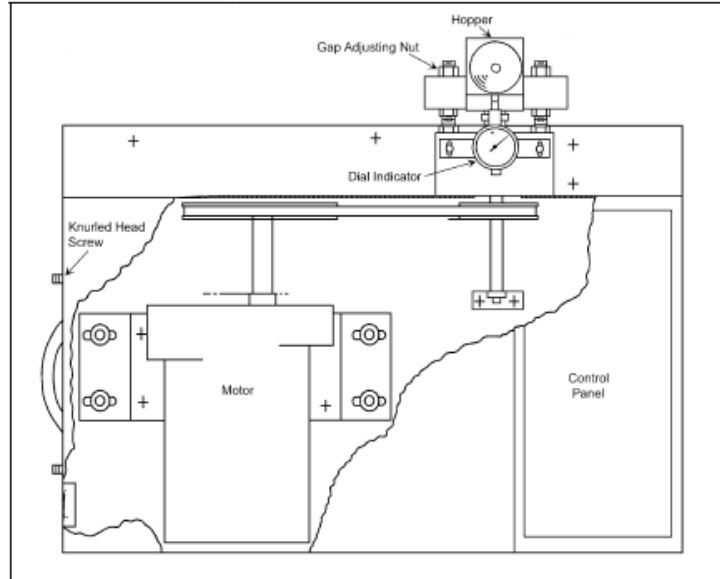

Figure 4
- Band Heater:** Encircles and heats the header (See Figure 4.)
- Rotor:** Rotated heated cylinder that contains an electrical heater (See Figure 4.)
- Hopper:** Water-cooled conical aperture on the LME's top into which the operator feeds polymer into the extruder. It must be connected to a 200 cc/min water supply and drain (See Figure 4.)
- Gap (Dial) Indicator Gauge:** Indicates the clearance between the rotor's surface and the headers inner side (See Figure 4 and 5.)